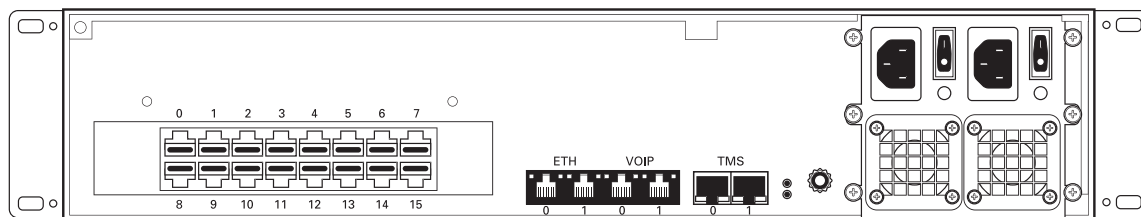

Figure 2.4 3200-RJ 16-Port Interface to the PSTN
1. Start with port 0 located at the top and leftmost position. Connect one cable between this port and the T1/E1 line. See figure 2.4 on page 20.